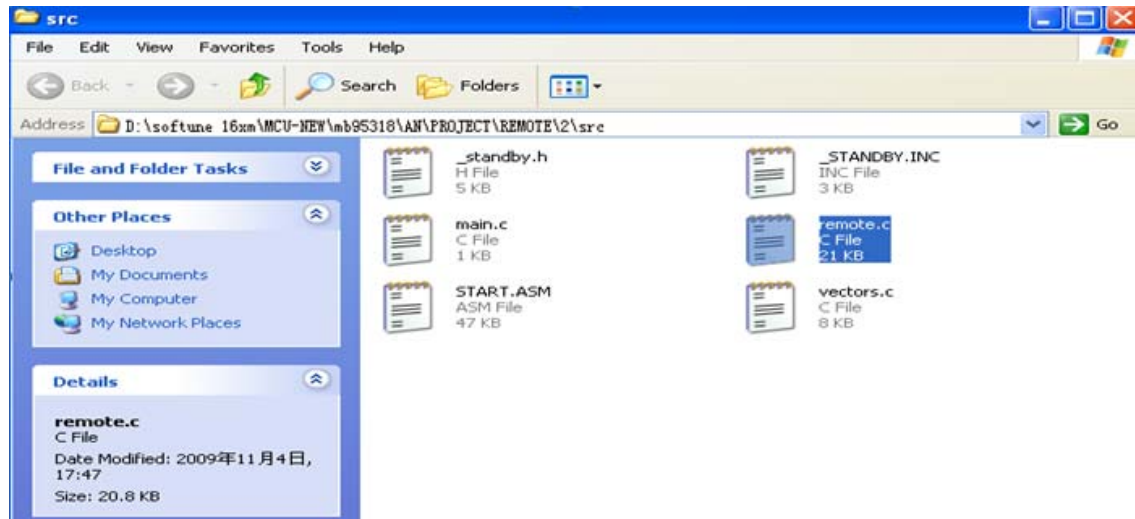

Figure 7-3: Library Use First Step
- First step is to add library to document, Figure 7-3 describes this step